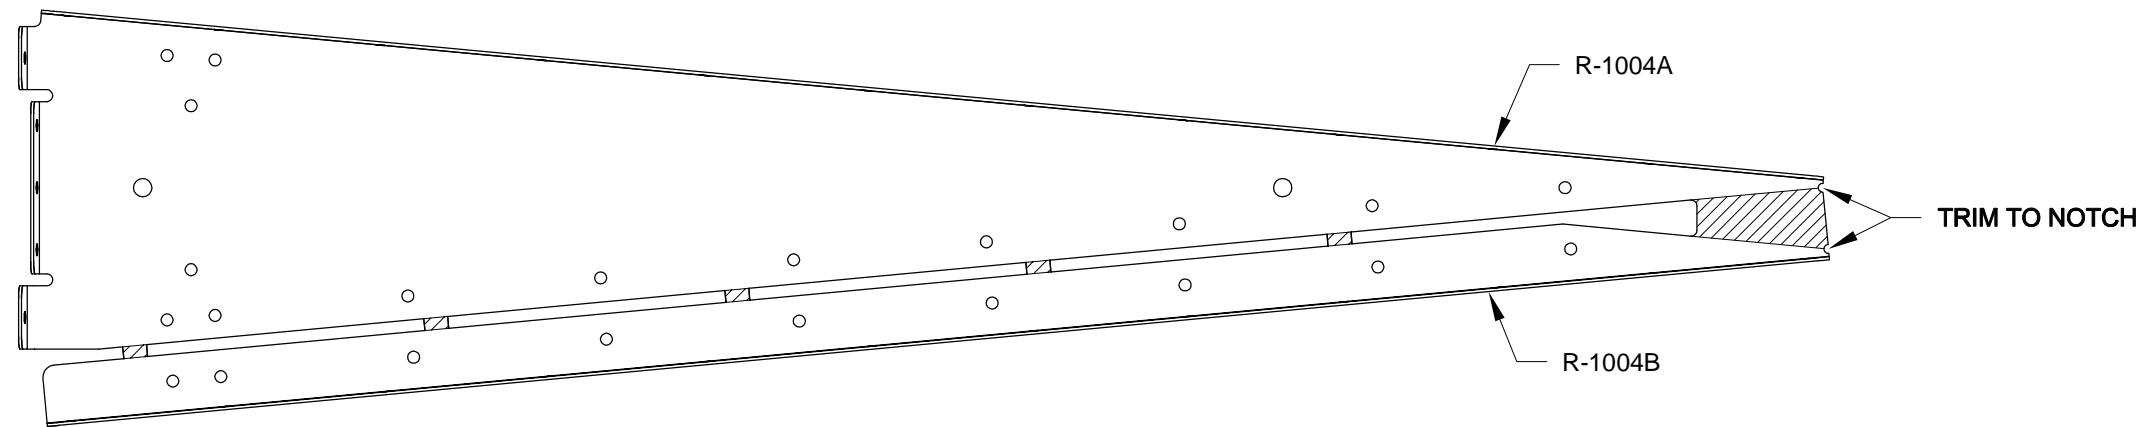

FIGURE 2: BOTTOM RIB PARTS SEPARATION
Step 2: Separate the R-1004 Bottom Rib parts, shown in Figure 2, as described in Step 1.